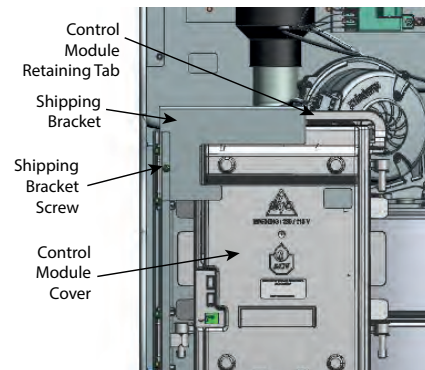

Fig. 8: Control Module
- Remove the screw holding the metal shipping bracket in place as shown in Fig. 8
*The display module comes preinstalled in the front red display enclosure as shown in Fig. 8.*